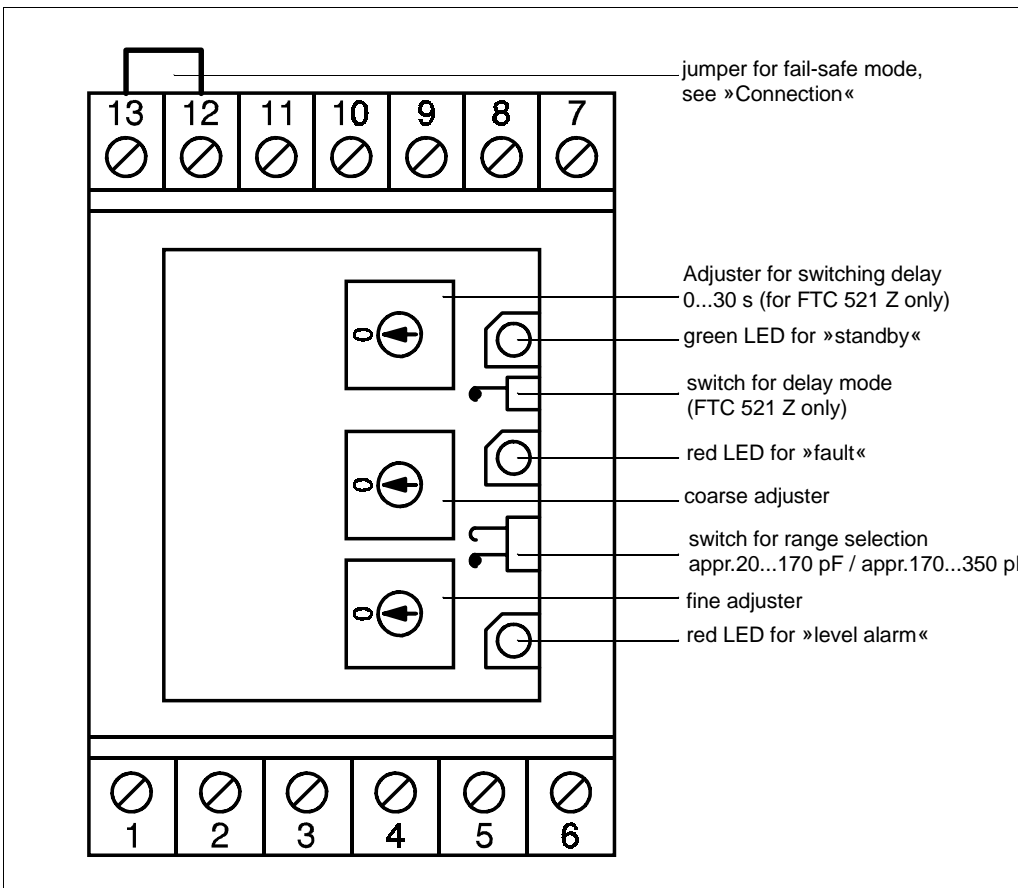

Fig. 10 Initial positions for adjuster and switches for the following calibration
- Reset all switches and calibrating units to their initial positions. See Fig. 10.